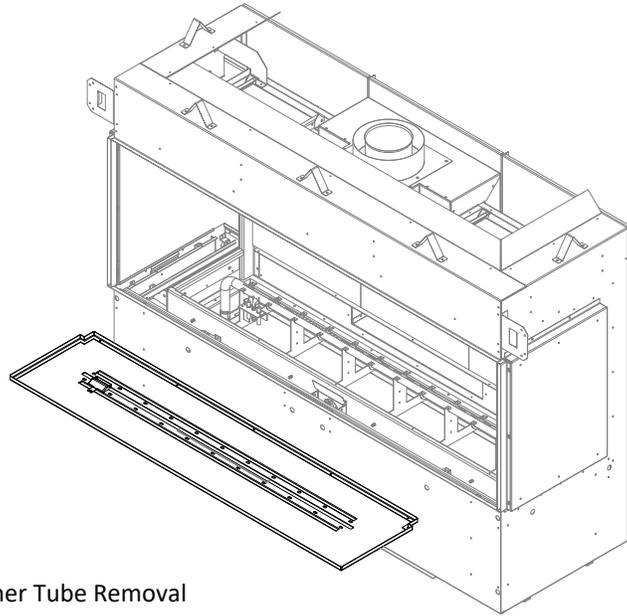

Figure 7.19 - Media Tray and Burner Tube Removal
5. Remove all the sheet metal screws around the perimeter of the media tray and all sheet metal screws along the center of the burner. Remove the firebox media tray and burner tube. Figure 7.19.